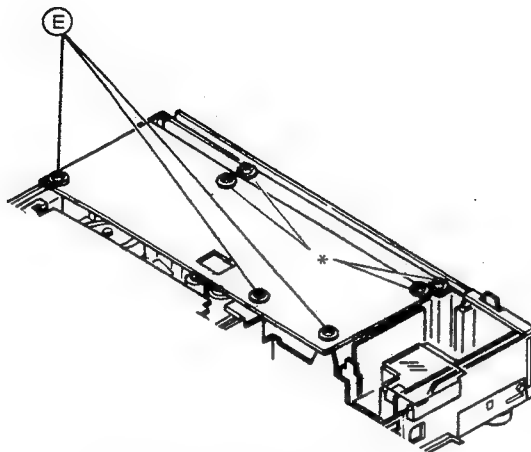

Fig. 1-3 Removing of MAIN board
2. Refer to Fig. 1-3 and take out 3 screws (E) from main board assembly.